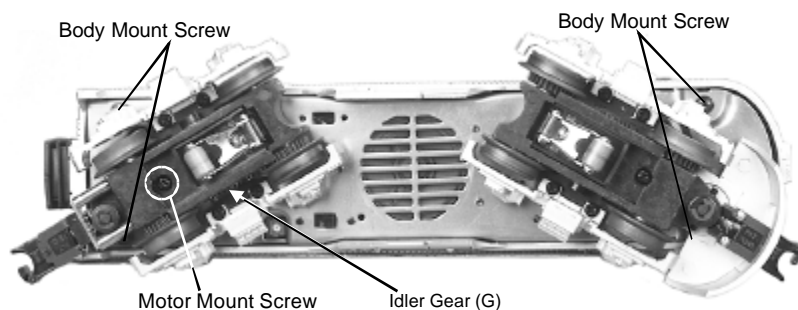

Figure 6. Body Mount Screws and Greasing Points.
1. Remove the four Phillips screws from the chassis, as seen in Figure 6, then lift the body away from the chassis.
2. Remove the truck blocks from the chassis by unscrewing the large Phillips motor mount screw on the bottom of each truck block, as shown in Figure 6.